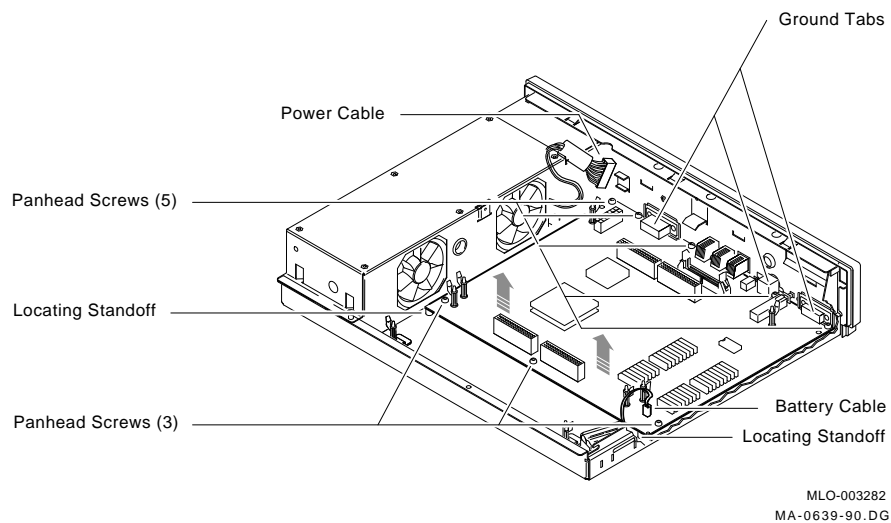

Figure 1-8 System Module Removal
1. Disconnect the power cable and battery cable from the system module (Figure 1-8).
2. Remove the eight panhead screws from the system module (Figure 1-8).